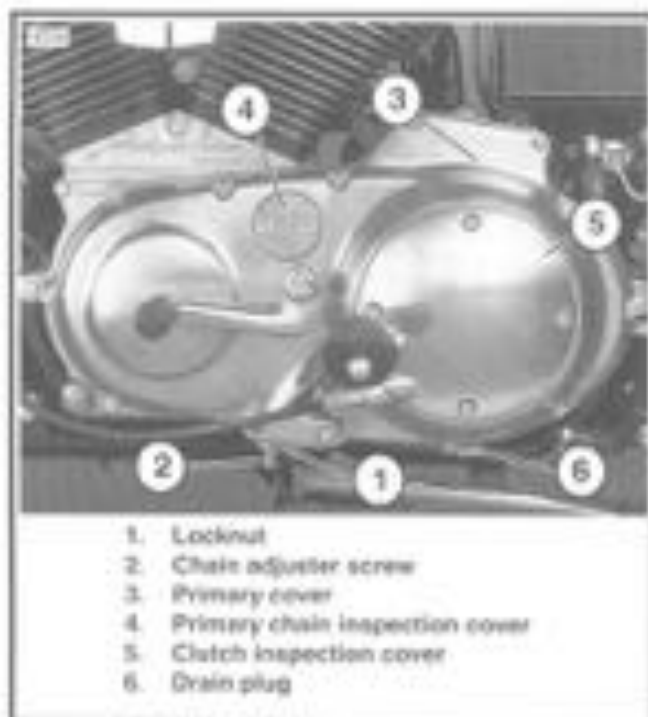
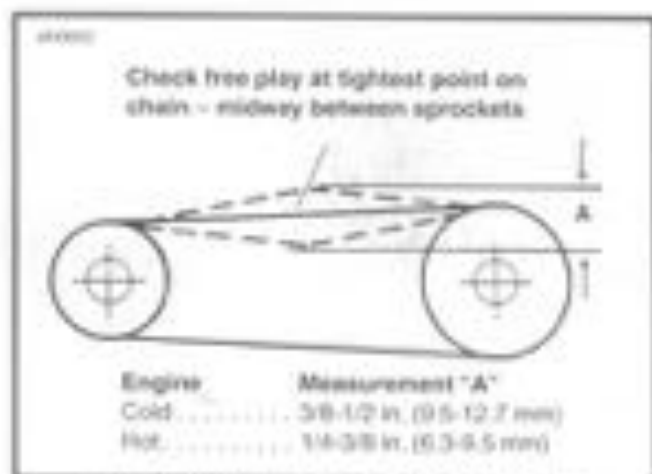
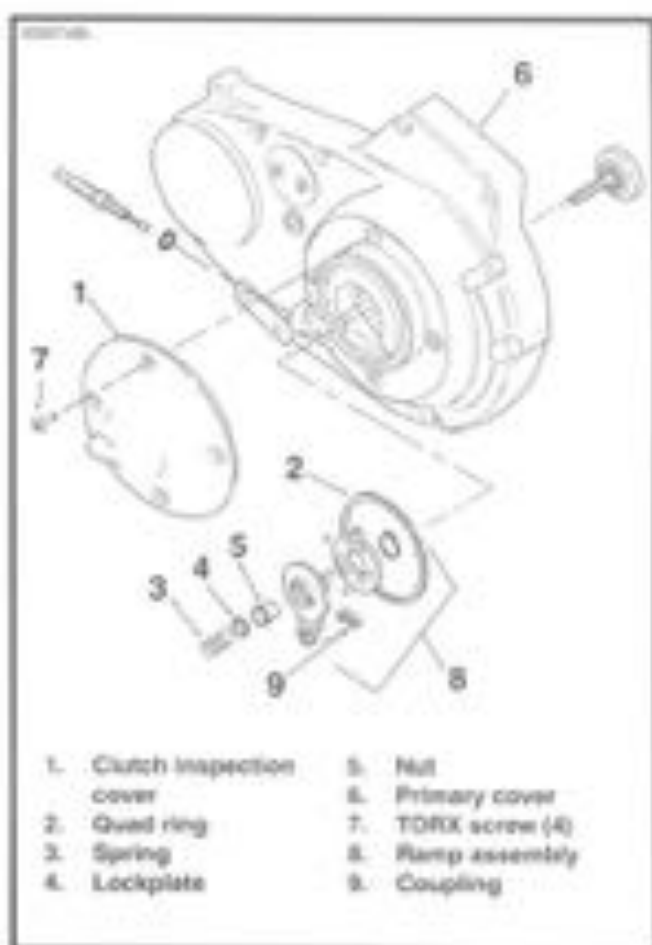

Figure 6-1. Primary Cover
Figure 6-2. Primary Chain Vertical Free Play
Figure 6-3. Clutch Inspection Cover
See Figure 6-1. Check the primary chain for correct tension by measuring its vertical free play through the primary chain inspection cover (4) opening located near the top of the primary cover (3).
See Figure 6-2. A properly adjusted primary chain should have the specified vertical free play in its upper strand. Be sure the measurement is taken midway between engine and clutch sprockets with sprockets rotated to the tightest chain position.
- Always measure vertical free play with the sprockets rotated to several different positions. The tightest measurement observed must be within the specifications shown in Figure 6-2.
See Figure 6-1. The primary chain can be adjusted without removing the primary cover (2). Proceed as follows:
1. Remove the two hex socket screws which secure primary chain inspection cover (4).
3. Loosen locknut (1). Turn chain adjuster screw (2) clockwise (inward) to reduce free play or counter-clockwise (outward) to increase free play. Vertical free play must fall within the limits specified in Figure 6-2.
If vertical free play cannot be set within the limits specified in Figure 6-2, then primary chain and/or chain adjuster are worn beyond adjustment limits. Replace parts as necessary.
4. See Figure 6-1. When tension is set correctly, tighten locknut (1) to 20-25 ft-lbs (27-34 Nm) torque.
5. Install primary chain inspection cover (4). Tighten hex socket screws to 40-60 in-lbs (4.5-6.8 Nm) torque.
1. See Figure 6-1. Place a drain pan under the engine. Remove drain plug (10) and drain lubricant from primary drive.
3. Loosen locknut (1). Turn chain adjuster screw (2) counter-clockwise to relax primary chain tension.
4. See Figure 6-3. Remove clutch inspection cover (1). Remove quad ring (2) from groove in primary cover.
5. Slide spring (3) with attached hex lockplate (4) from flats of adjusting screw.
6. Turn adjusting screw clockwise to release ramp and coupling mechanism. As the adjusting screw is turned, ramp assembly (8) moves forward. Unscrew nut (5) from end of adjusting screw.
7. Remove hook of ramp from button to the rear of cable end and coupling (9). Remove cable end from slot in coupling. Remove coupling and ramp assembly.
6. See Figure 6-3. Thread nut on adjusting screw until slot of screw is accessible with a screwdriver. Fit nut hex into recess of outer ramp and turn adjusting screw counter-clockwise.